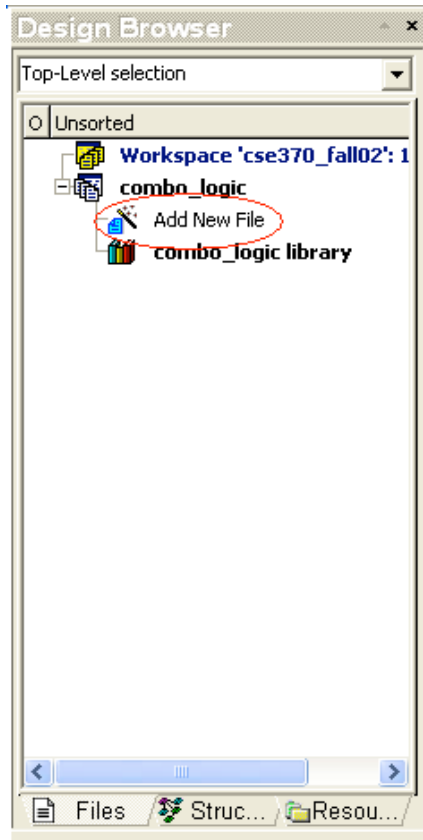

Figure 7
1. Double-click the “Add New File” option in the Design Browser (Figure 7). This will open the Add New File window.